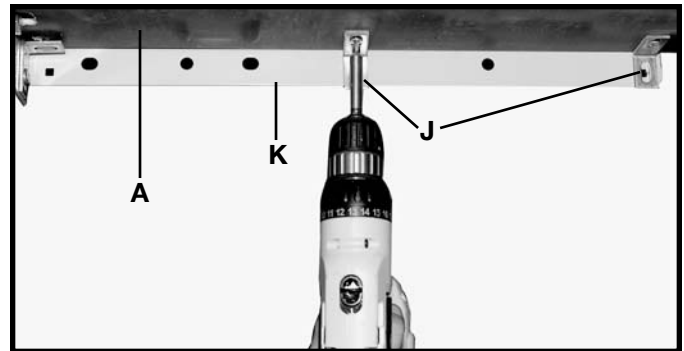

Fig. 56
4. Fasten the table (A) to the two brackets (J) on the rear guide rail (K) Fig. 56, using two #8x7/8" wood screws.